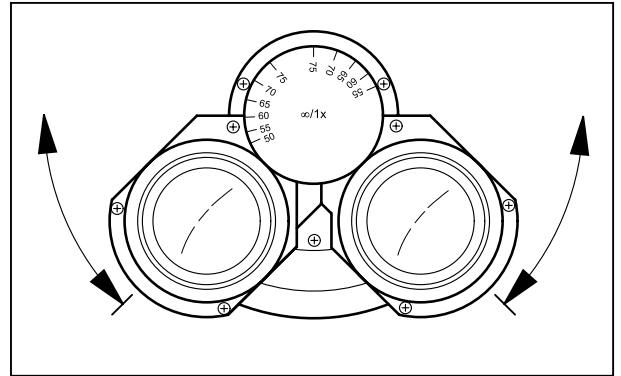

Fig. 18 Setting the interpupillary distance
- Rotate the eyepiece tubes symmetrically toward or away from one another to adjust the distance between the tubes to your individual interpupillary distance (Fig. 18).